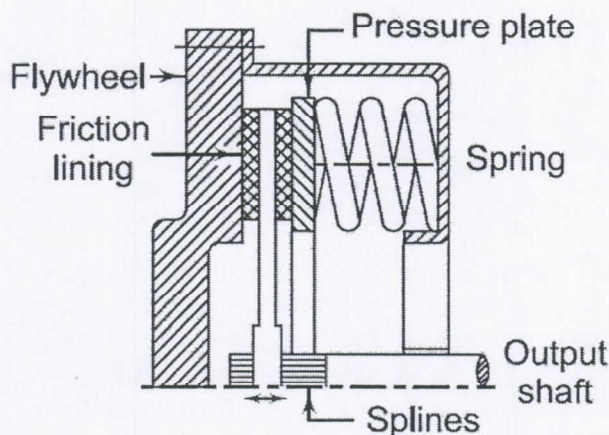

Figure 4: Single plate clutch and spring assembly
- 13 (a) An automotive single plate clutch consists of two pairs of friction surfaces, one between the friction lining and the pressure plate and the other between the friction lining and the flywheel as shown in Fig. 4. Eight identical helical compression springs, arranged in parallel, provide the required axial thrust on the friction surface. The total spring force exerted by all springs is 2400 N and the corresponding deflection of each spring is approximately 15 mm. The spring index can be taken as 8. The springs are made of patented and cold-drawn steel wire with ultimate tensile strength of 1390 N/mm2 and modulus of rigidity of 81370 N/mm2. The permissible shear stress for the spring wire can be taken as 30% of the ultimate tensile strength. Design the spring.